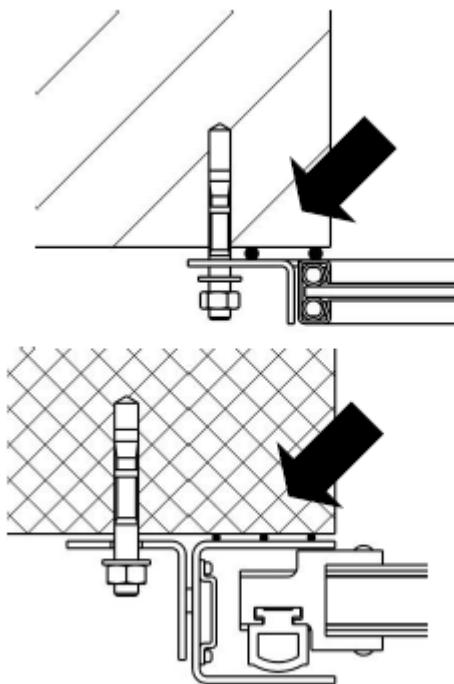

Fig. 4
- Prior to final fixation, pull frame slightly away from the wall in order to place two rows of sealant (according supplier's instructions) behind the frame and transverse seal up to the max. height of water head, respectively to the transverse seal (Fig. 4). If bottom seal is bolted, sealant shall also be placed there.
The sealing must be placed behind the gate (Fig. 4), not on pressurized side.